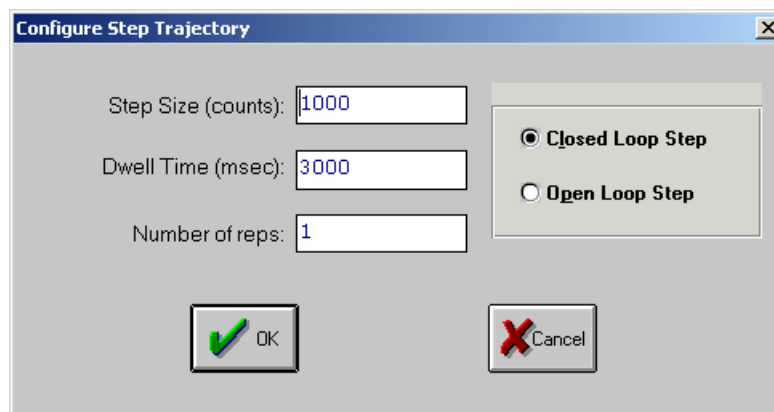

Figure 6: Configure Step Trajectory window for a closed-loop step
- Select Step and click on Setup button to set up the step signal. A window similar to Figure 6 will open, allowing the specification of the Step Size, Dwell Time (how long is the step) and the number of repetitions.
- Close the Configure Step window (Figure 6) by a click on the **OK** button and close the Trajectory Configuration window (Figure 2) also by a click on the **OK** button.